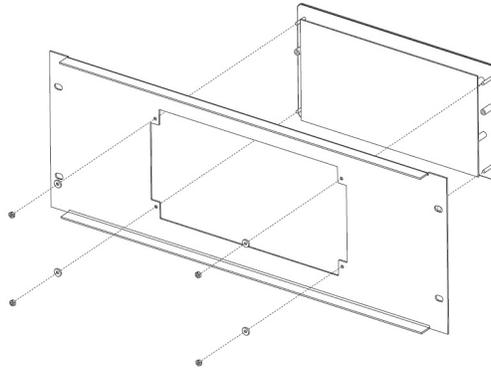

Figure 23
2. Align the four studs of the TOUCH7 panel to the rack panel and secure to the panel using the four washers and nuts as shown in Figure 23.